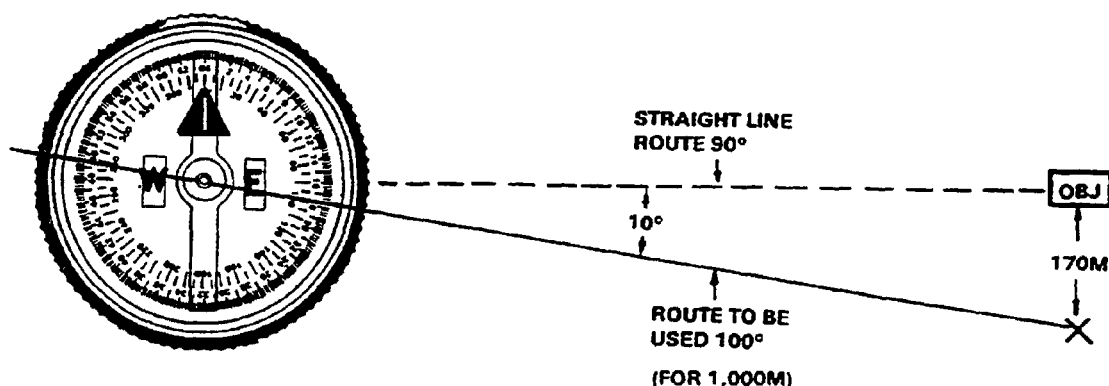

Figure C-5. Deliberate Offset to the Objective
e. Offset. A deliberate offset is a planned magnetic deviation to the right or left of an azimuth to an objective. Use it when the objective is located along or in the vicinity of a linear feature such as a road, stream, and so forth. Because of errors in the compass or in map reading, the linear feature may be reached without knowing whether the objective lies to the right or left. A deliberate offset by a known number of degrees if a known direction compensates for possible errors and ensures that upon reaching the linear feature, the user knows whether to go right or left to reach the objective. Ten degrees is an adequate offset for most tactical uses. Each degree offset will move the course about 18 meters to the right or left for each 1,000 meters traveled. For example, in Figure C-5, the number of degrees offset is 10. If the distance traveled to "x" is 1,000 meters, then "x" is located about 180 meters to the right of the objective.